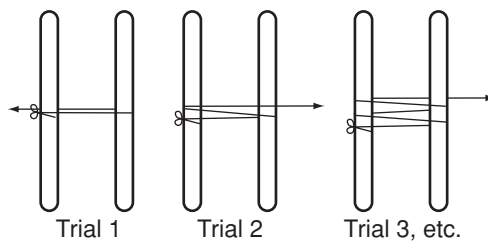
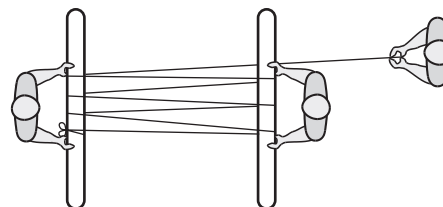

Figure 1.
Figure 2.
5. Wrap the rope around the middle of the other broom handle (see Figure 1) and give the free end to the rope puller. The rope puller should stand behind, and slightly to the side of one of the holders, so that the rope will be pulled perpendicular to the length of the broom handles. The free end of the rope should go under the arms of the broom-handle holder so that the rope is pulled parallel to the ground as well (see Figure 2).
7. Repeat steps 5 and 6 several times. For each new trial wrap the rope around the broom handles a different number of times (see Figure 1). How much more difficult is it for the holders with each new trial? How much easier is it for the puller? What is the mechanical advantage of the puller as a new loop is added to the pulley system? How close are the broom handle holders drawn together compared to the amount of rope pulled by the rope puller during each new trial?